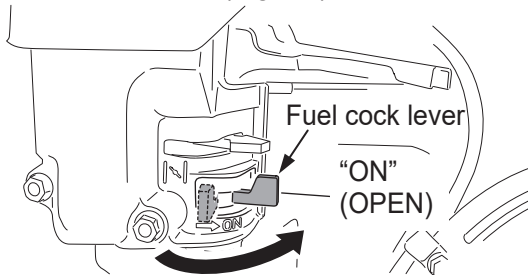

Fig.16
1. Set the fuel cock lever to the "ON" position to let the fuel flow. (Fig. 16)